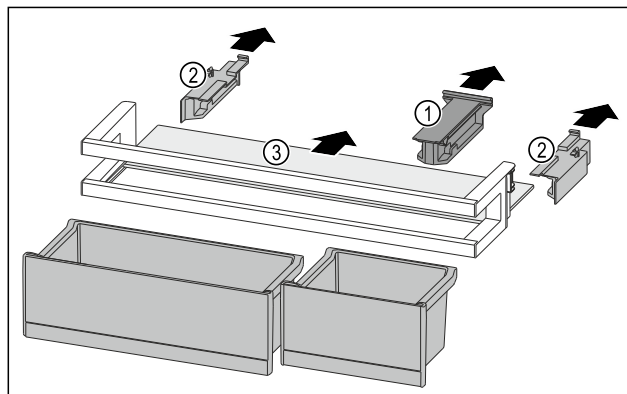

Fig. 131
- ▶ Pull off the holding part Fig. 131 (1).
- ▶ Pull off the side parts Fig. 131 (2).
- ▶ Remove the shelf Fig. 131 (3).